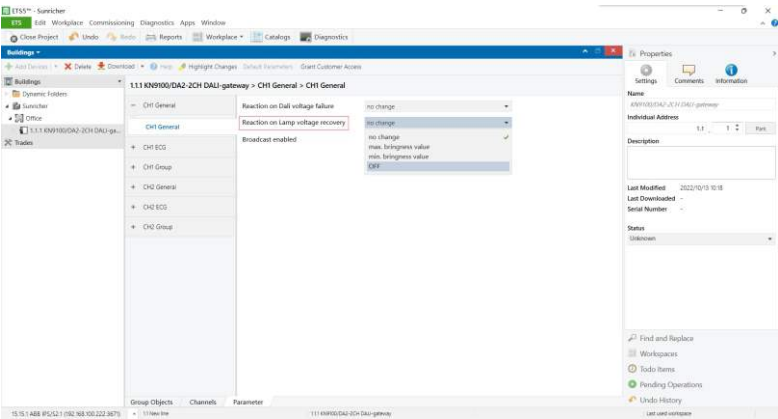

Figure 27
**Reaction on lamp voltage recovery:** means reaction when voltage of control gears of CH1 is reset, drop down and tick a value, available settings: "no change", "max. brightness value", "min. brightness value", "OFF" as shown in Figure 27.